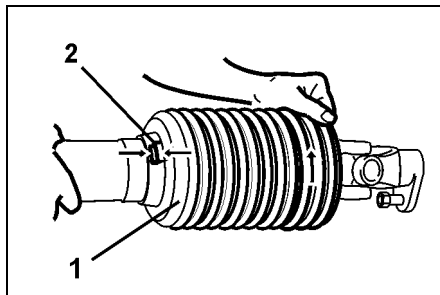

Fig. 13
- Twist cone (Fig. 13/1) into fitting position (Fig. 13/2).